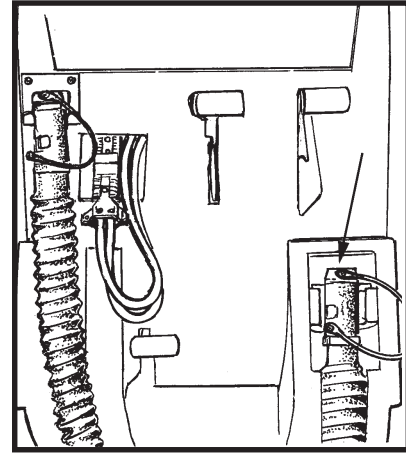
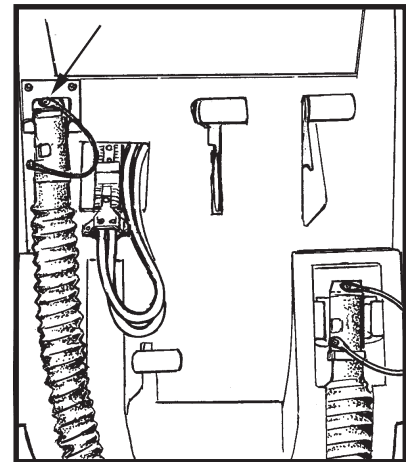

Figure 3
Figure 4
1. Drain the solution tank (Figure 3) and the recovery tank (Figure 4). To drain the tanks, follow this procedure: